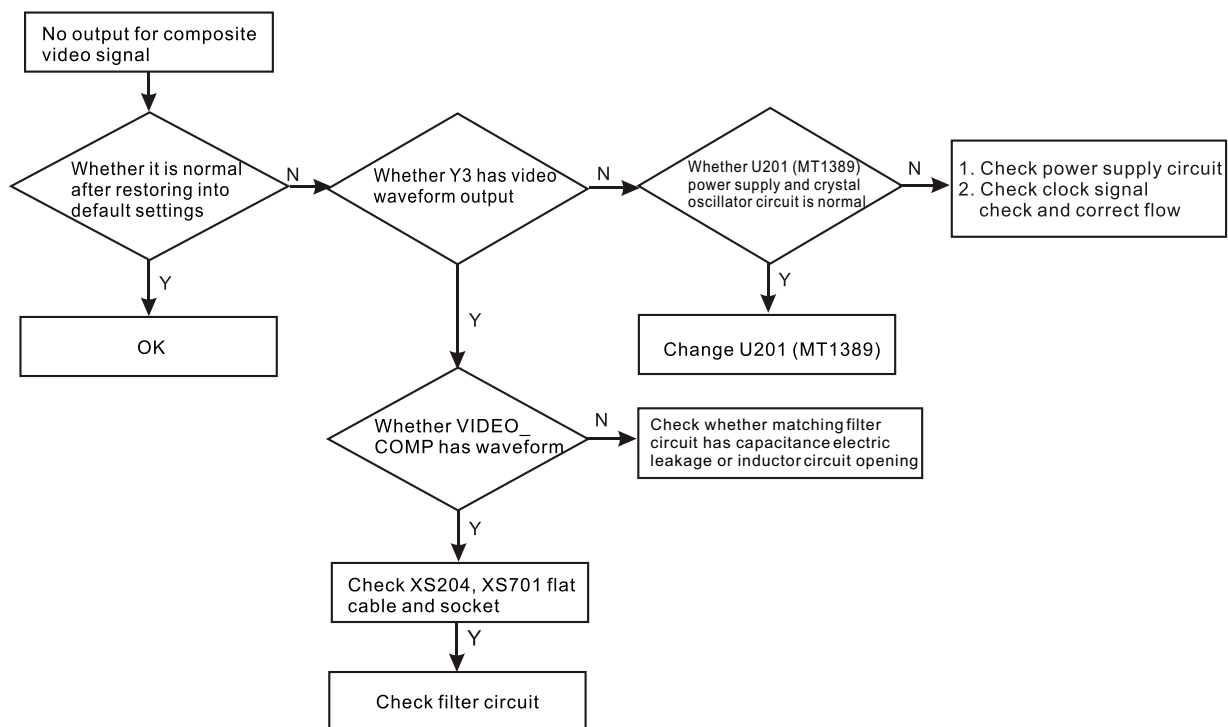

Figure 3.2.10.4 Troubleshooting flow chart of “No output for composite video”
(3) Troubleshooting process for "No colour of picture" is shown as the following figure 3.2.10.5: